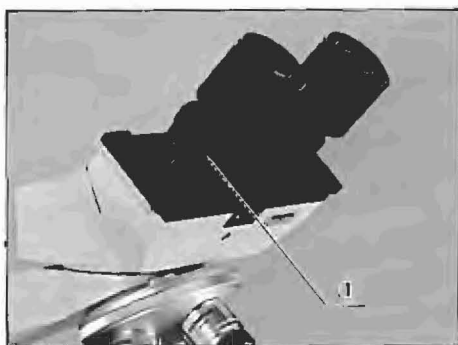

Fig. 18
- 2) Next, looking at the image through the left eyepiece with your left eye, rotate the diopter adjustment ring (1) to focus on the specimen without using the focus adjustment knobs. (Fig. 18)